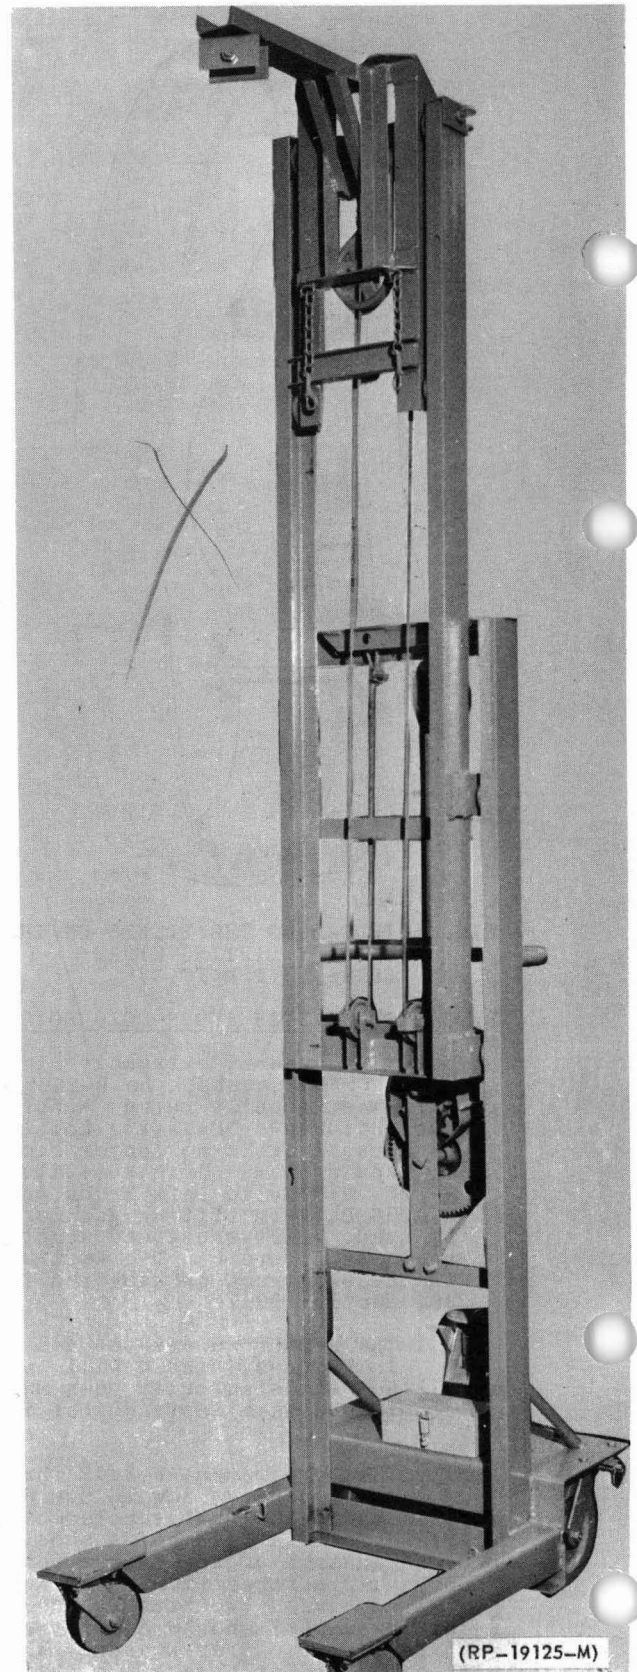

FIG. 4 R-3448 TIER BATTERY HOIST FULLY EXTENDED. (PARS. 8.1, 8.2 & 12.2)
8.2 The more recent R-3448 three tier battery hoist now in use does not replace the R-2667 but supplements it. See Figure 4. The R-3448 hoist should be ordered instead of the R-2667 for regular jobs having a three tier stand and hardened job sites having two tier stands. The R-3870 or R-2667 should be ordered for use with regular two tier stands. When lifting with either hoist always use the lifting strap and spreader. Except that R-3870 is hydraulically operated, the method of handling the battery cells does not differ from that of the R-2667 hoist.
12.2 On the R-3448 hoist remove the floor lock and replace it on the base in an inverted position. See Figure 4.